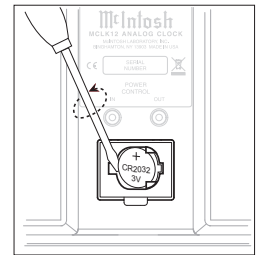

Figure 7
3. Referring to figure 7, use a small pocket size screw driver (or other suitable tool) and carefully insert the tip of the tool between the metal tab of the battery socket and the left side of the battery. Then rotate the tool to release the battery from the socket. Remove the battery from inside of the clock.